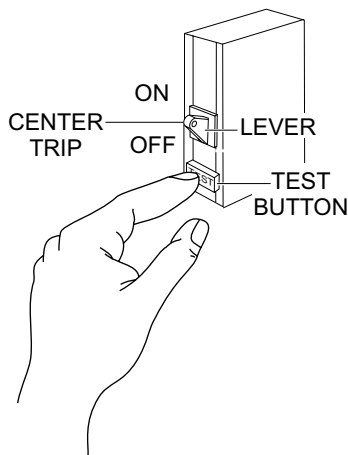

Figure 43. GFCI Breaker (Test)
4. Press the **test button** (Figure 43) on the AC circuit breaker and verify that the circuit breaker lever moves (*click*) from the **ON** position to the **center** trip position. This indicates that the GFCI breaker is working correctly and ground faults will be detected.